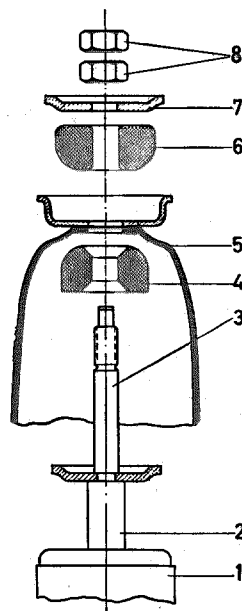

Fig. 35 — 1/11
Press the upper rubber ring (4) over the mounting bolt (3) of the shock-absorber so that the sharply rounded surface of the rubber ring is pointing upward (Fig. 35 — 1/11).